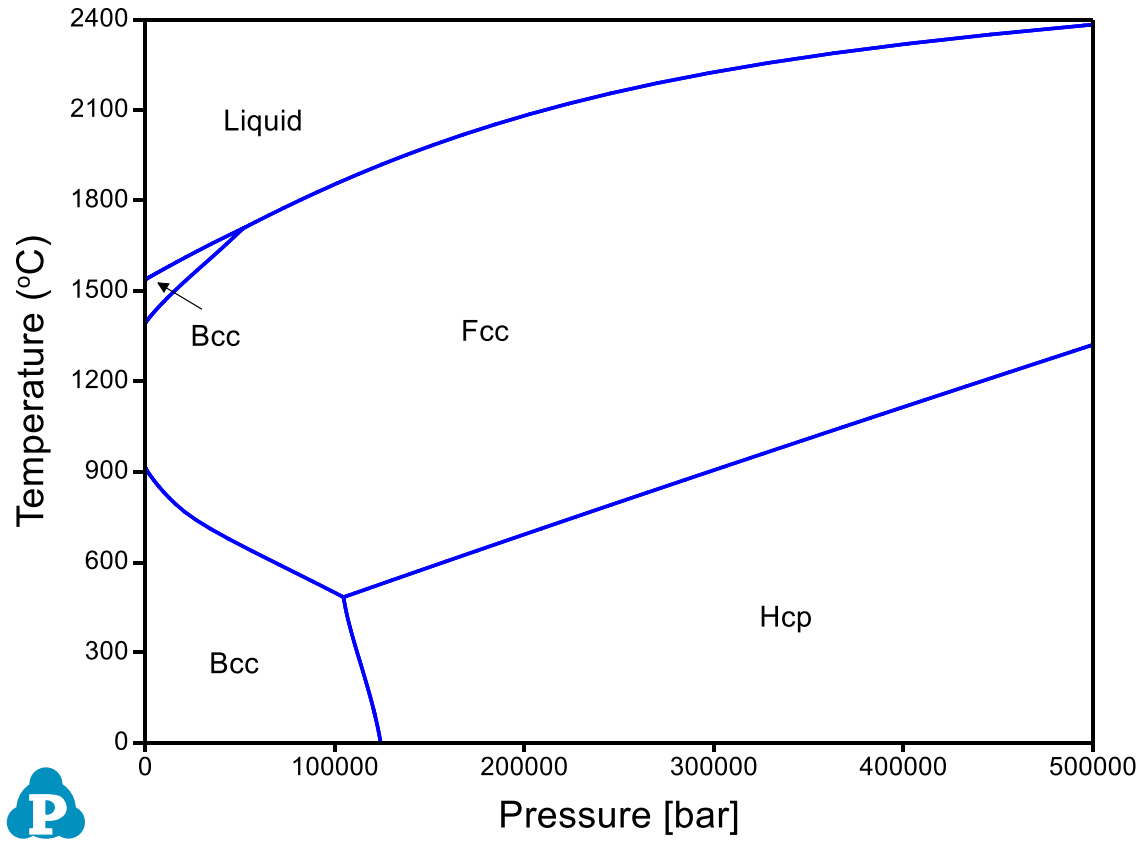

Figure 1.18.3: Temperature-Pressure diagram for pure Fe component
- From Default table, other plots, such as T-P diagram, can be plotted as shown in Figure 1.18.3;